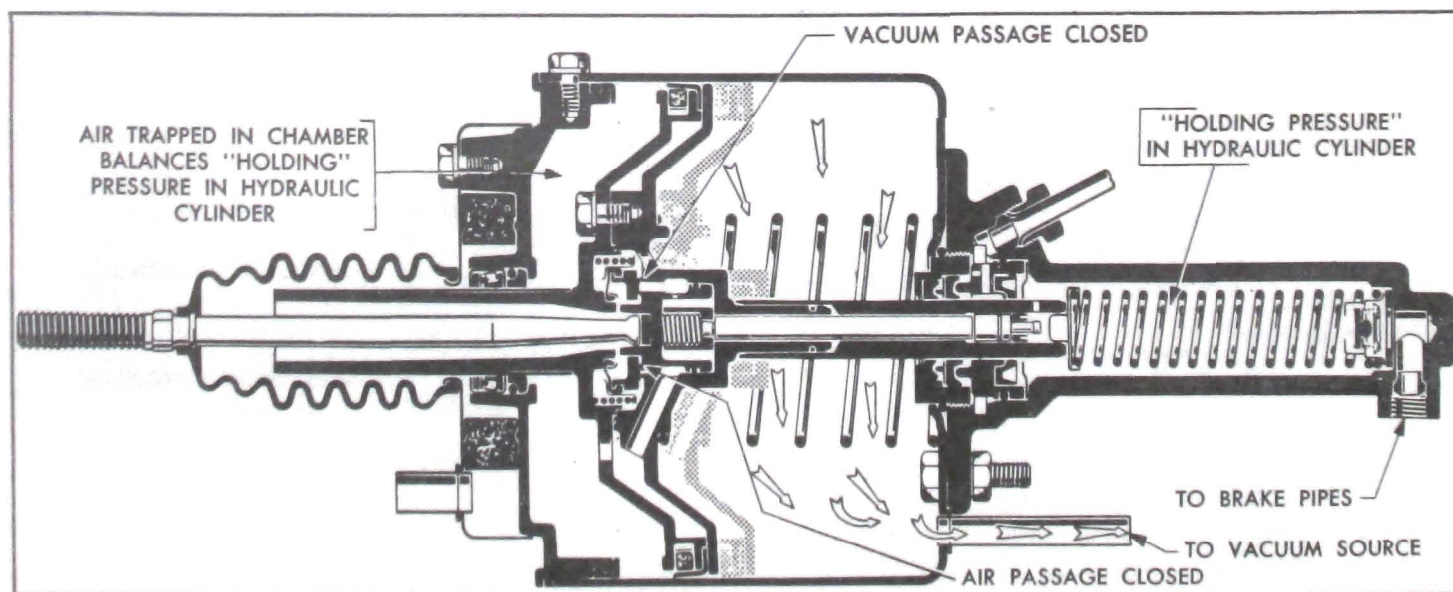

Figure 8-5—Poised Stage
(4) *Poised Stage*. See figure 8-5. Brake apply action and build-up of hydraulic pressure continues only as long as the pedal is kept moving to keep the push rod in contact with the air valve seat. When the push rod stops, the air valve seat stops because it is held against the push rod by the reaction rod spring. The piston continues rearward momentarily until the control valve disk contacts the air valve seat and closes the air passage.